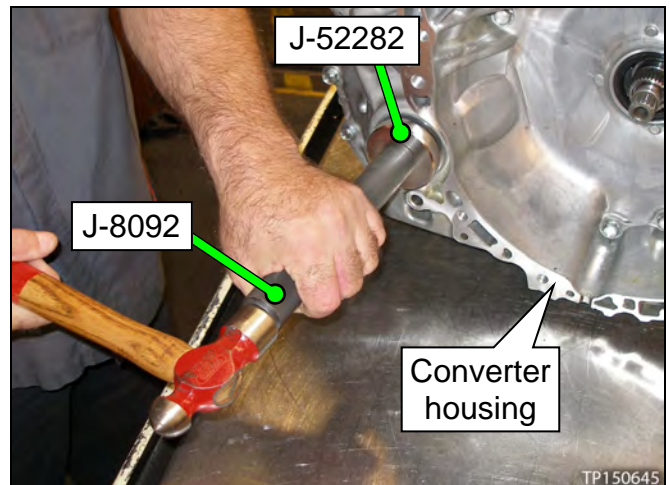

Figure 2I
**NO:** Install the torque converter housing side axle seal (Figure 2I).